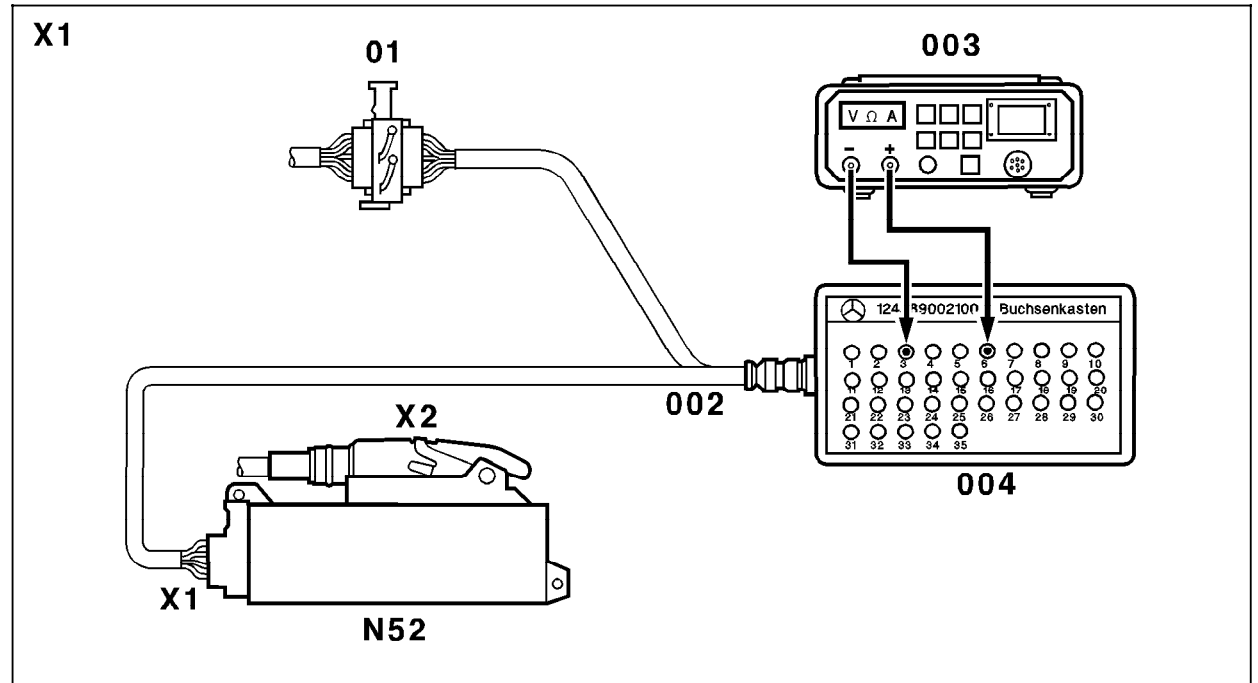

Figure 1
2. Bridge sockets 1 and 3 of connector (X11/12) in passenger footwell see 23, Figure 1 (only necessary when testing with socket box).
Connect socket box according to connection diagram X1 (22, Figure 1):